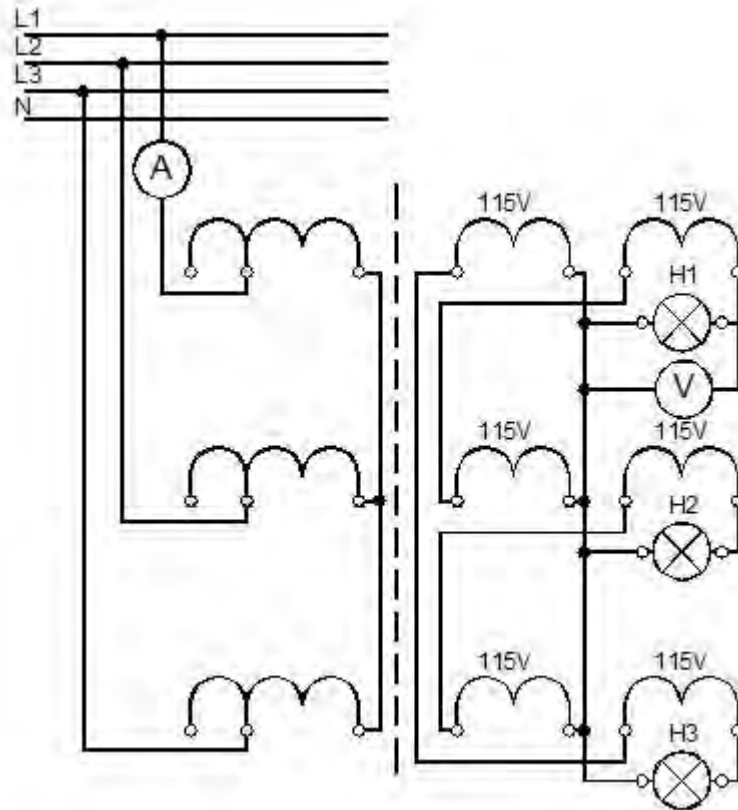

Figure 9:
1. Wire up the circuit in accordance with the set-up and wiring diagram of Figure 9.